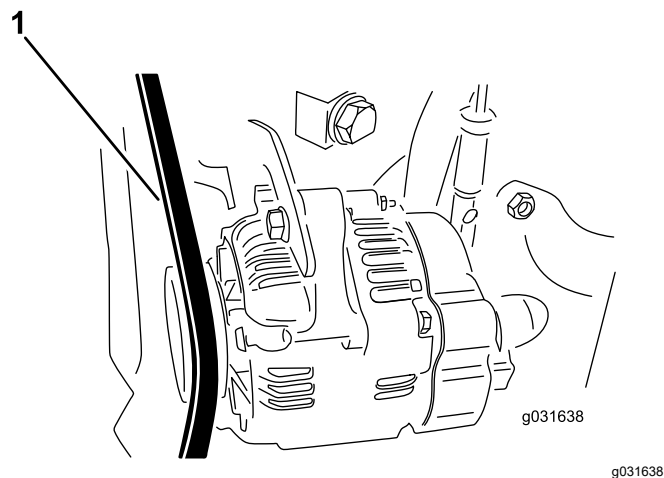

Figure 58
2. Apply 30 N (22 in-lb) of force to the alternator belt, midway between the pulleys (Figure 58).